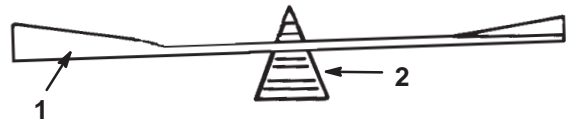

Figure 33
2. Check the balance of the blade by putting it on a blade balancer (Fig. 33).